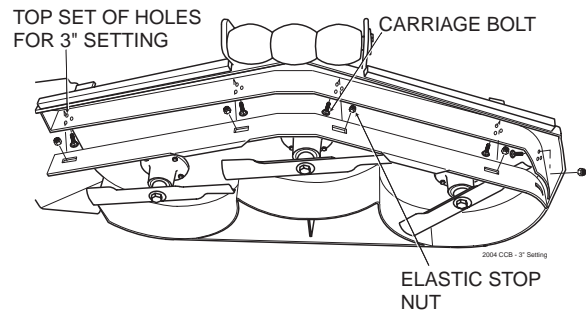

Figure 10. 3" Custom-Cut Baffle Position
- A. 3" Position - baffle is installed using the top set of holes on the front baffle welded inside the cutter deck. (See Figure 10). The Velocity-Plus and Advantage cutter deck will deliver the best quality-of-cut in very tall, wiry, tough to cut grass.
2. Move the Custom-Cut Baffle to desired position. (See Figures 10 through 12 for position).
3. Reinstall the mounting hardware as shown. (See Figures 10 through 12). Torque hardware to 39ft.lbs.